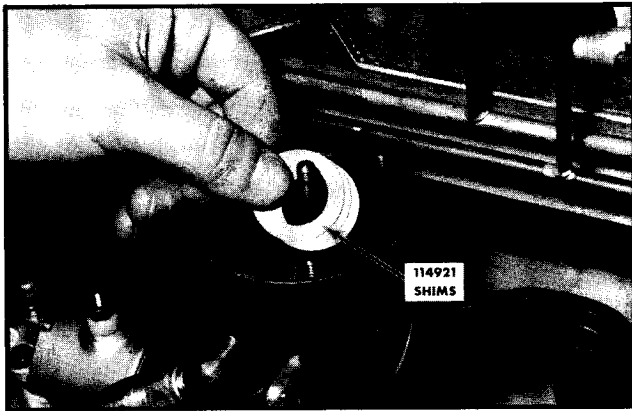

Fig. 12-94. Installing shims under spring
- b. If less than $3/32$ inch, shims, Part No. 114921, should be installed under spring to correct distance. Fig. 12-94.